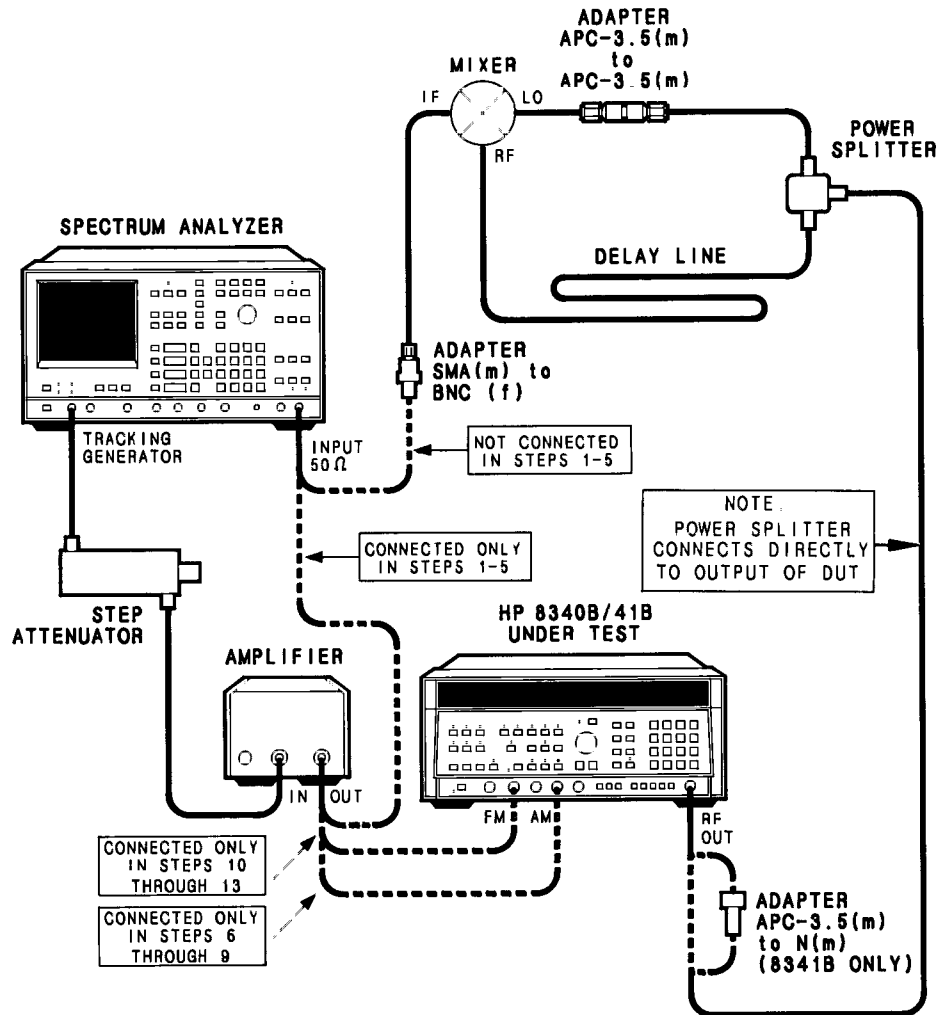

Figure 4-21. FM Flatness Setup
1. Refer to Figure 4-21, FM Flatness Setup. Connect the test equipment as shown. Connect the output of the HP 8447F to the 50 Ohm input of the HP 3585A. The HP 3585A should not be connected to the mixer at this time.